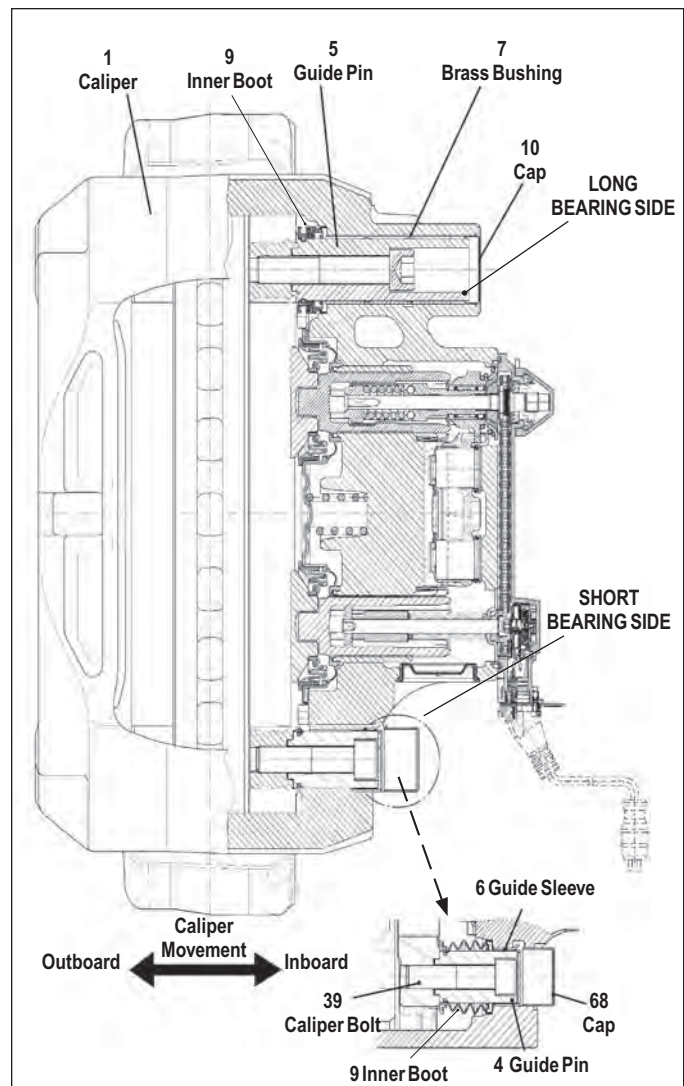

FIGURE 26 - GUIDE PINS
- 4.5.2 See Figures 26 and 27. With the wheel removed, remove the pad retainer bar (11). Temporarily replace the pads with two new pads (12). Attach a magnetic dial-gauge holder to the carrier (2) on the short bearing side of the caliper (1). Use the measuring point on the caliper (1) - see the callout